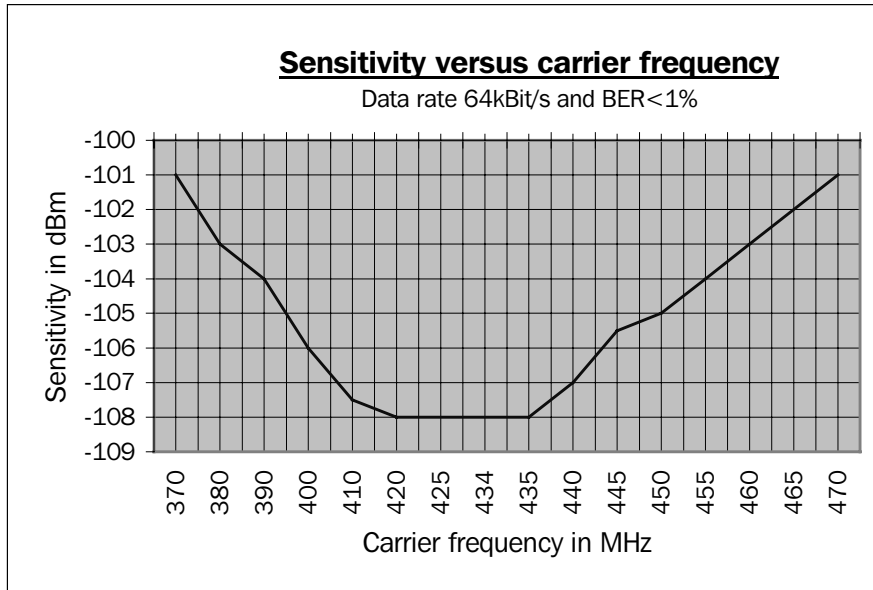

Fig27: Sensitivity versus Carrier frequency
- Sensitivity (*fig27*) versus carrier frequency Data rate :16Kbit/s